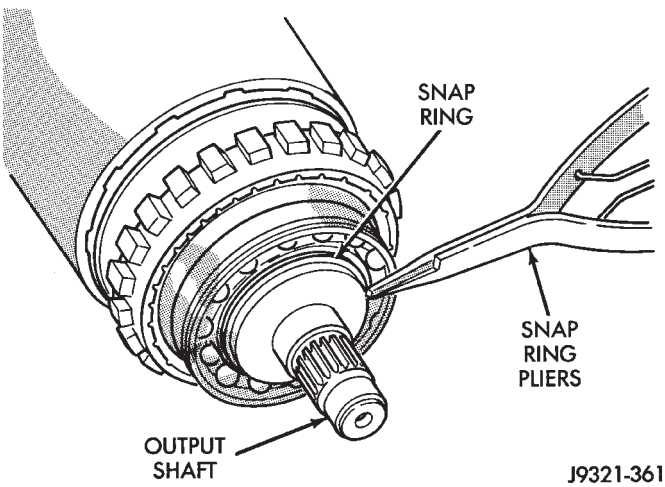

Fig. 17 Rear Bearing Snap Ring Removal/Installation
(7) Remove snap ring that retains rear bearing on output shaft (Fig. 17).